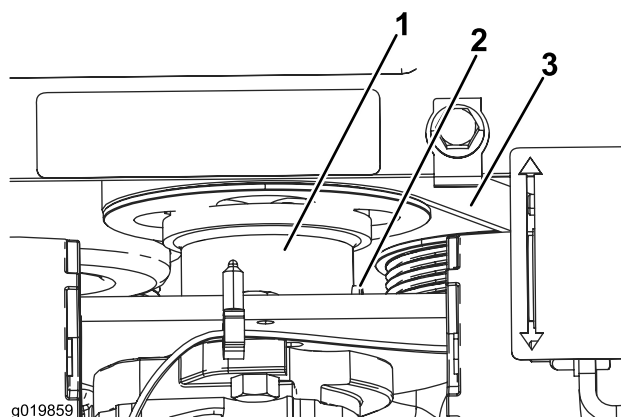

Figure 52
5. Loosen the set screw on the pump drive coupler (Figure 52).
6. Drop the coupler down away from the pulley (Figure 52).